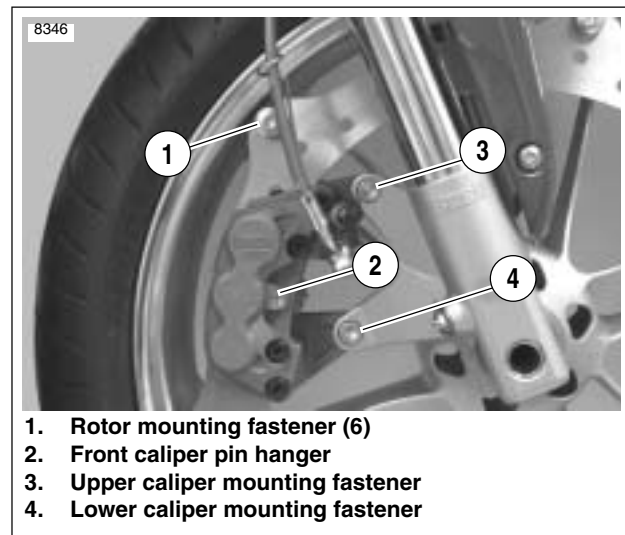

Figure 1-15. Front Brake Caliper
1. See Figure 1-15. Loosen pin hanger (2) but do not remove.
2. Rotate wheels so that caliper is centered between rotor mounting fasteners (1).
3. Remove lower caliper mounting fastener (4) that secures caliper to fork lower.
4. Loosen but do not remove upper caliper mounting fastener (3) that secures caliper to fork lower.
5. Remove pin hanger (2).
4. See Figure 1-15. Install pin (2) making sure it engages hole on both pads and spring clip.
6. See Figure 1-15. Install lower caliper mounting fastener (4).
8. Tighten pin (2) to 11-15 ft-lbs (15-20 Nm).